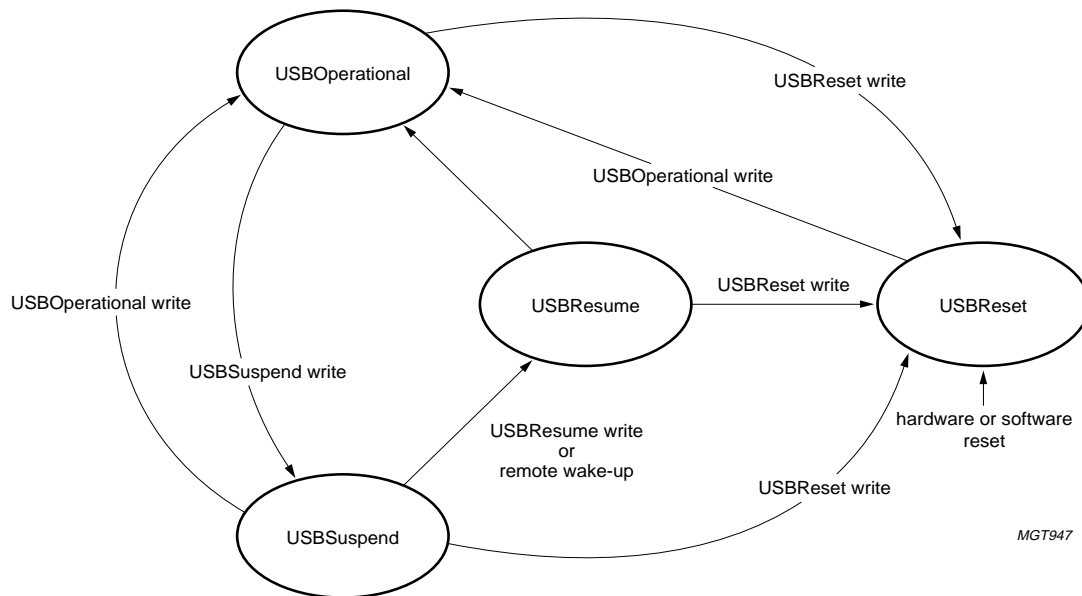

Fig 14. The ISP1160 HC's USB states.
The HCD can perform only the USB state transitions shown in Figure 14.
**Remark:** The Software Reset in Figure 14 is not caused by the HcSoftwareReset command. It is caused by the HostControllerReset field of the HcCommandStatus register (02H to read, 82H to write).